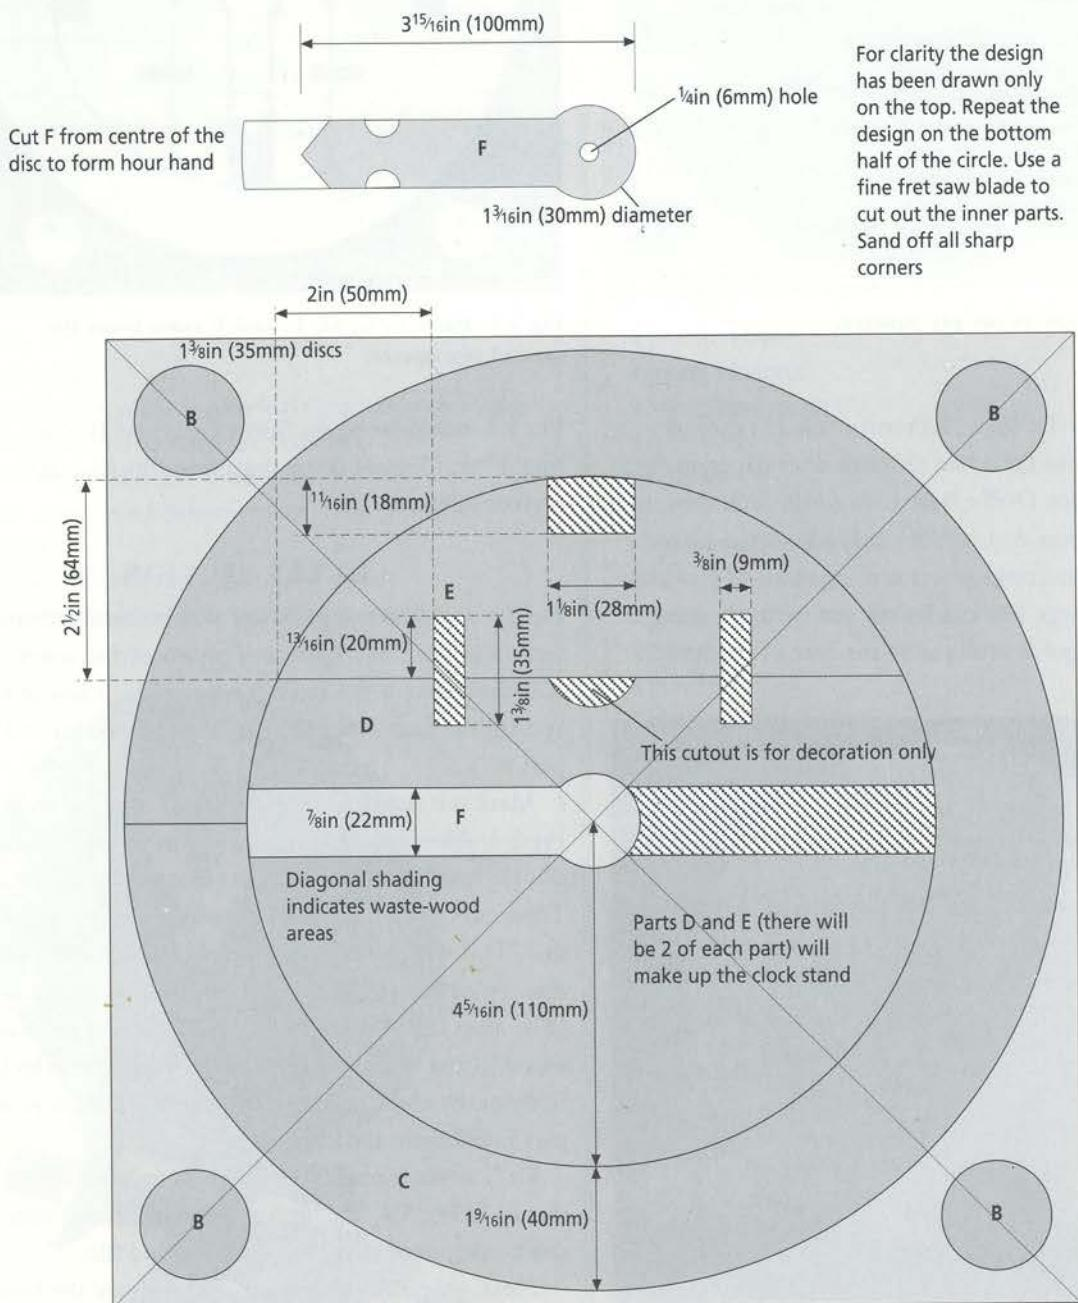

Fig 5.4 Plan for laying out the parts to be cut from the second ply square.
Mark out the second square piece of ply as shown in Fig 5.4. After you have completed the design, cut out the $11\frac{3}{16}\text{in}$ (300mm) diameter disc with a fret saw. Then cut out the $8\frac{1}{16}\text{in}$ (220mm) diameter centre disc. This will give you the outer ring (C) and a centre disc. From the centre disc cut out parts D, E and F. (The areas in Fig 5.4 with diagonal shading are waste wood.) Parts D and E will form the stand on which the body of the clock will rest when assembled for play, and part F will form the hour hand.
Drill a $\frac{1}{4}\text{in}$ (6mm) hole in the hour hand (F) as shown in Fig 5.4. The decorative semicircular notches can be shaped with a $\frac{1}{4}\text{in}$ (6mm) round file.